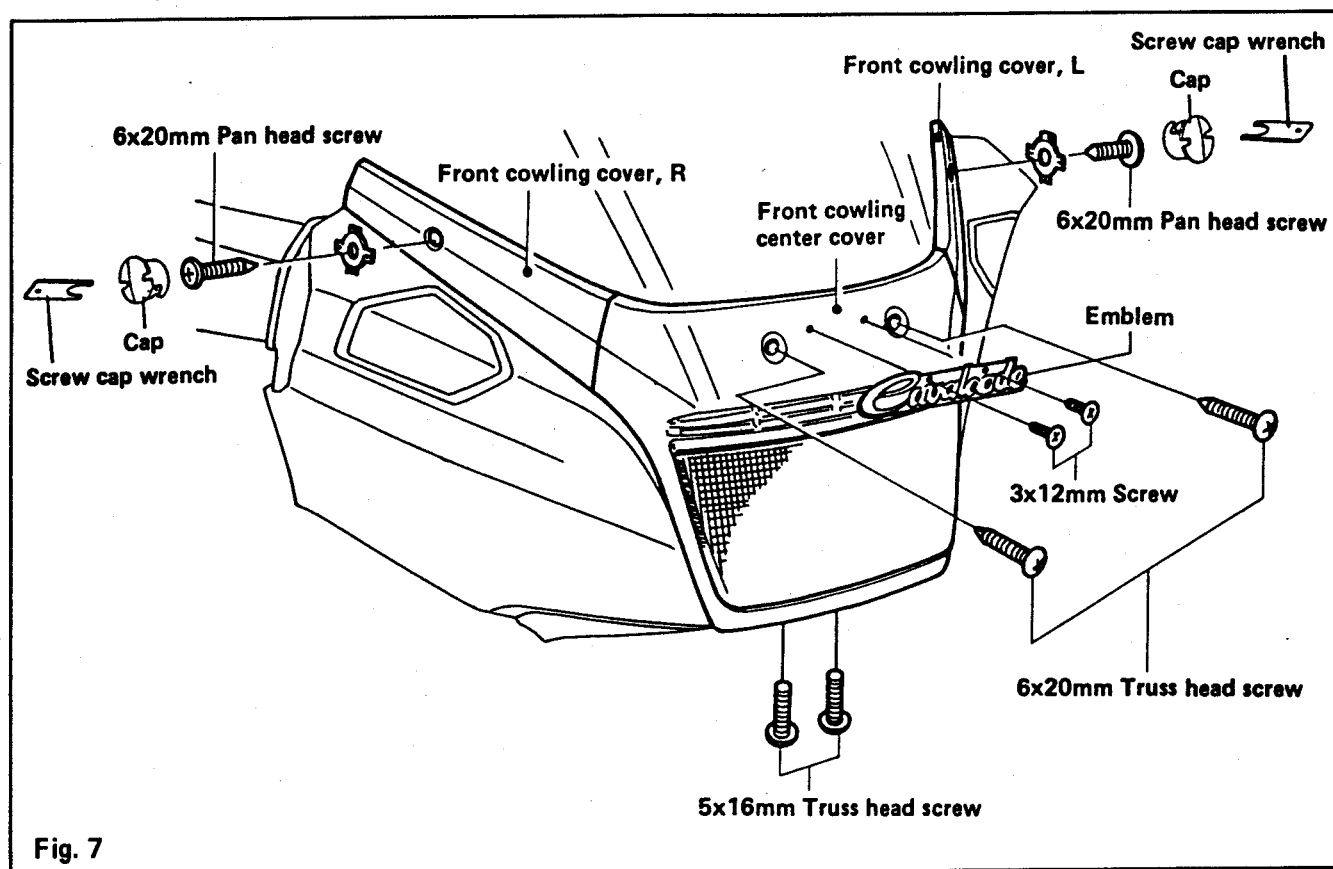

Fig. 7
- 3) Take off the front cowling center cover by removing the four screws as shown in Fig. 7.